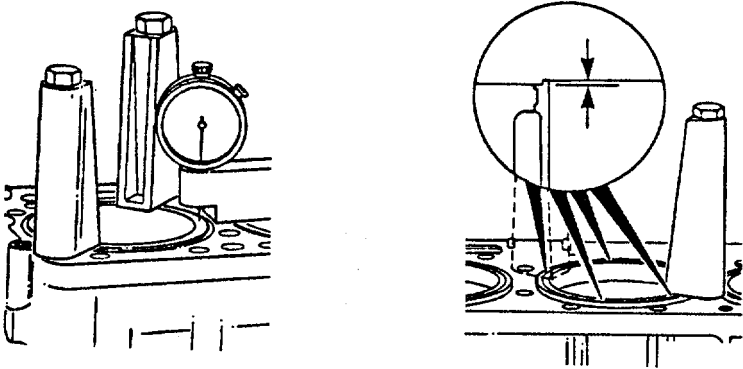

FIGURE 4-53. Measuring Liner Protrusion.
- 3 Use the gauge block to measure the liner protrusion at four points 90 degrees apart (Figure 4-53). The protrusion must be from 0.003 inch (0.08 mm) to 0.006 inch (0.15 mm).
- The clamp set uses two cylinder head capscrews. The clamps must be installed 180 degrees from each other to apply equal amounts of pressure on the liner (Figure 4-53).